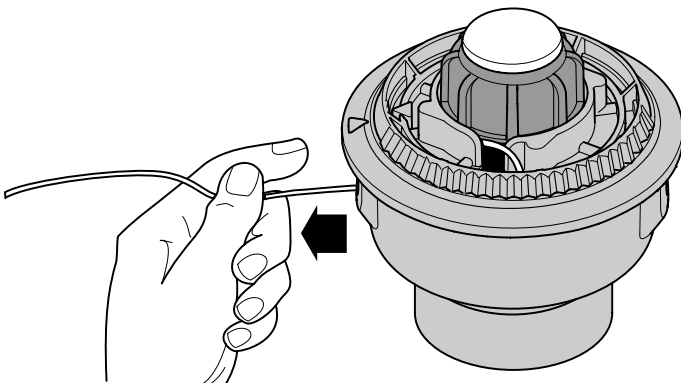

Fig. 18
6. Pull the line from the outer spool until the line is tight against the inner reel (Fig. 18).